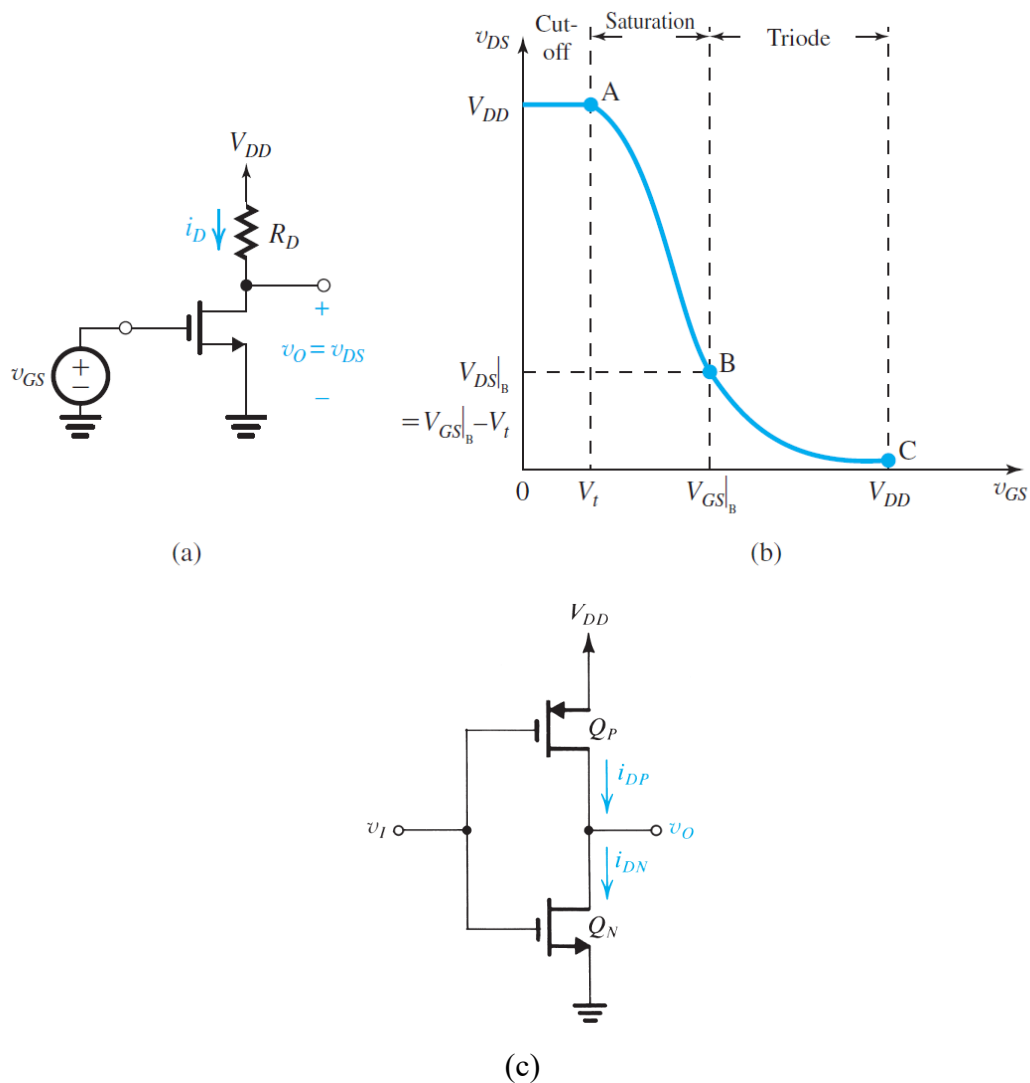
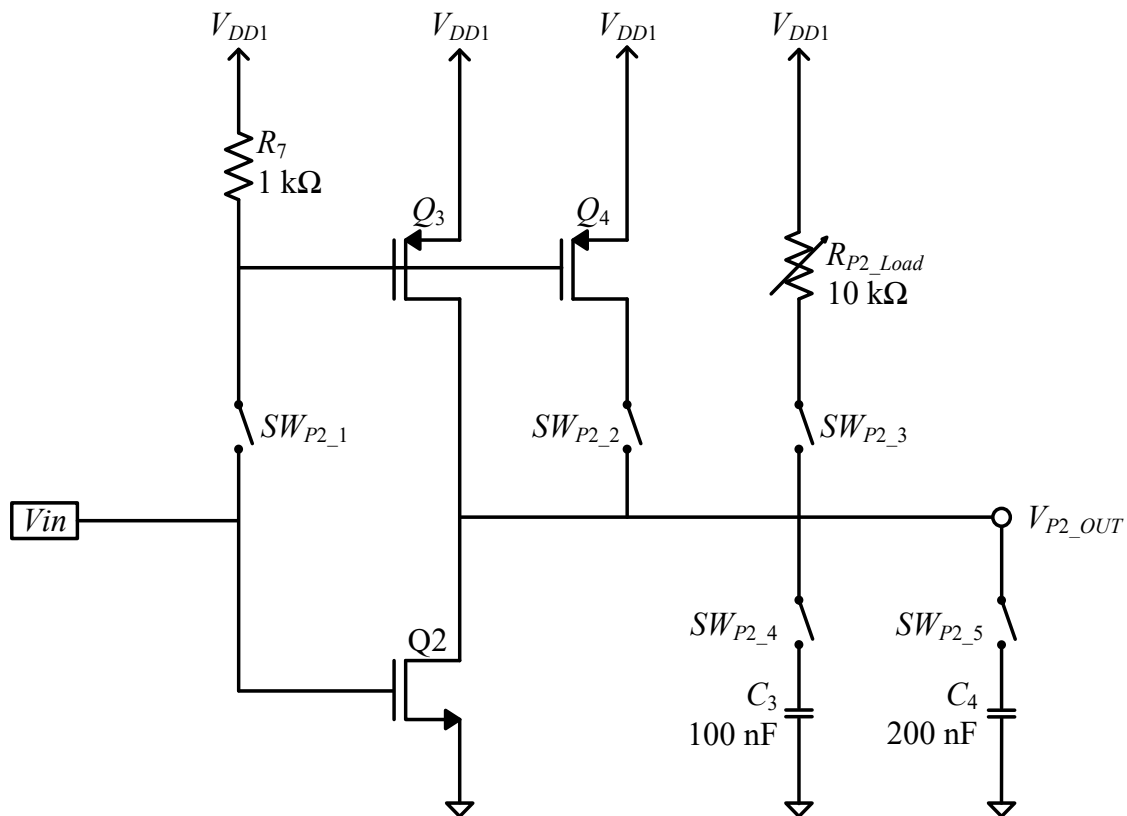
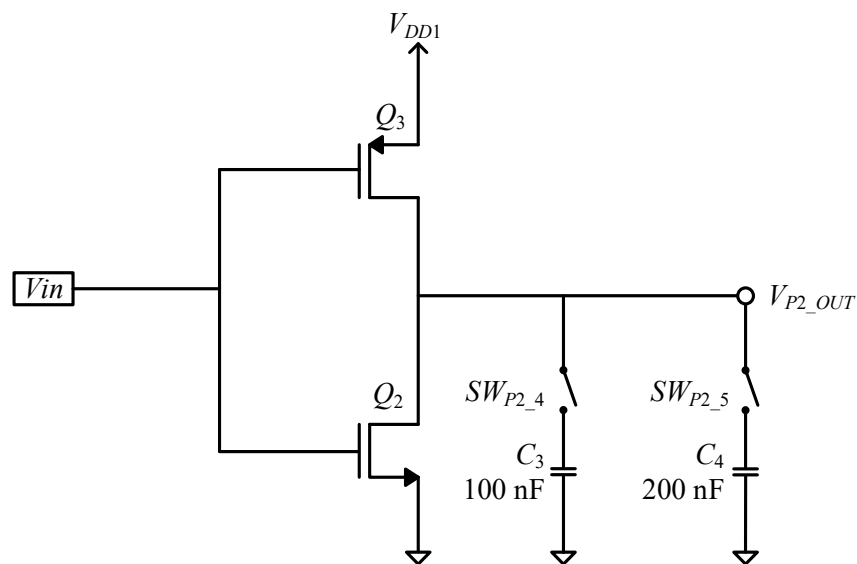

Fig. 12: (a) A simple MOSFET amplifier and (b) the corresponding voltage transfer characteristic. (c) CMOS inverter.
Fig. 13: Voltage transfer characteristic circuit.
Fig. 19:
Consider the simple circuit shown in Fig. 12(a), whose Voltage Transfer Characteristic (VTC) is shown in Fig. 12(b). The VTC can be explained as follows:
Notice that depending on the application, the circuit in Fig. 12(a) can either be used as an amplifier, or a logic inverter as explained below.
The VTC shown in Fig. 12(b) can also be used to implement an inverter. A '0' at the input ($v_{GS} = 0$) causes the output voltage to be a '1' (i.e.: $v_O = V_{DD}$), while a '1' at the input ($v_{GS} = V_{DD}$) causes the output to be a logical '0' ($v_O = V_{DD} r_{DS}/(r_{DS}+R_D) \cong 0$ for $r_{DS} \ll R_D$). The voltage corresponding to a '0' therefore depends on the circuit parameters. Historically the first logic inverters were created in this way, since the complimentary PMOS transistor was not available. Note that if R_D in Fig. 12(a) is replaced by a PMOS transistor to create a CMOS inverter, as shown in Fig. 12(c), the VTC is modified such that the output voltage at point C is zero, since Q_P is in cut-off when the input is V_{DD} . The main advantage of a CMOS inverter is that, unlike the circuit in Fig. 12(a) it draws zero current from the power supply in either the '1' or '0' output states.
The circuit shown in Fig. 13 is used in the lab and can be configured to create the circuits in Figs. 12(a) and 12(c) with different load capacitance (C_3 and C_4) and a programmable effective PMOS W/L ratio. Note that closing SW_{P2_2} puts Q_3 and Q_4 in parallel, effectively doubling the W/L ratio of Q_P in Fig. 12(c).
- E10 Use CH1 to measure V_{in} and use CH2 to measure V_{P2_OUT} . Configure the oscilloscope in XY mode and sketch the observed voltage transfer characteristic in your lab book. On the curve, label the regions of operation of the NMOS transistor. Compare your sketch to Fig. 12. (b) and note the voltage at point 'C'. Increase the value of R_{load_2} gradually up to $10 \text{ k}\Omega$. How does increased drain resistance affect the small-signal gain of the circuit while the transistor is in saturation? Use the scale (volts per division) on the oscilloscope to determine the approximate maximum gain of this circuit.
- E11 Setup new circuit as below in Fig. 19 without load capacitors. This will configure a basic CMOS inverter circuit shown in Fig. 12(c). Keep the function generator amplitude the same but change the waveform from a triangle to square wave and increase the frequency to 2 kHz. Set the oscilloscope back to YT mode (regular time mode). Sketch the input and output waveforms and verify that this circuit is behaving as an inverter. Add C_3 and note the effect on the output. Add C_4 then note the effect on the output. What is the approximate rise time of the output now?